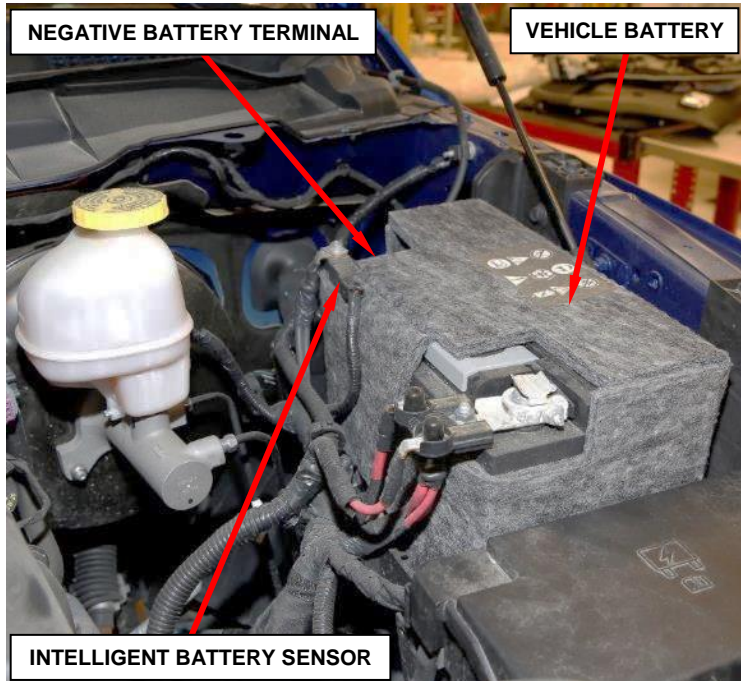

Figure 10 – Negative Battery Cable
27. Disconnect and isolate the negative battery cable by removing only the captive nut securing the terminal end to the post (Figure 10)
65. If equipped, connect the Intelligent Battery Sensor (IBS) (Figure 10).